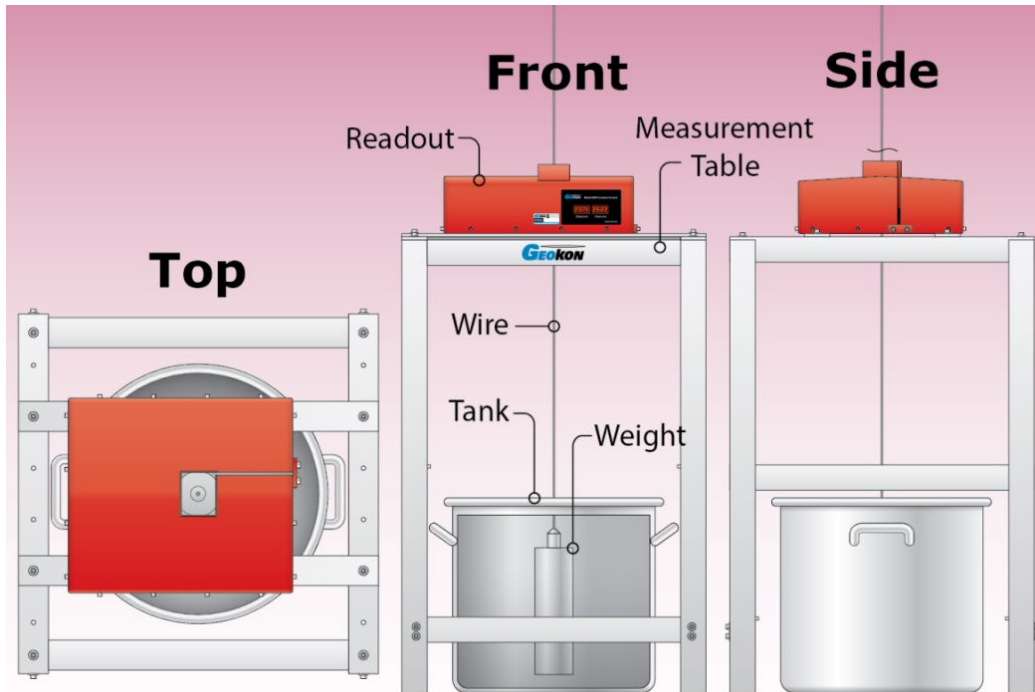

Figure 10 - Direct Pendulum System with Measurement Table
- 15) Carefully lower the cabinet onto the readout table, making sure the Z-block does not scratch the photosensitive screens inside the CCD chamber while doing so. Align the Velcro strips on the bottom of the cabinet with the ones on the mounting surface. Figure 10 depicts the assembly thus far.